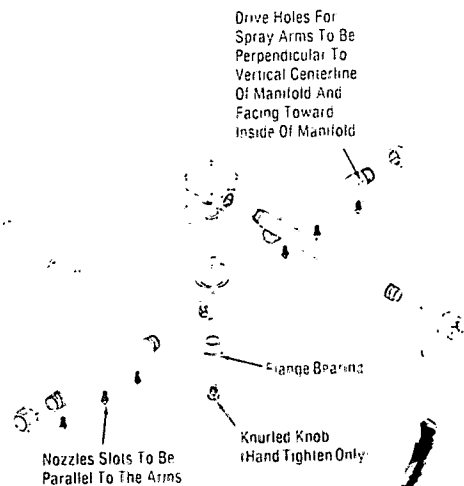

Figure 7-10. UPPER SPRAY ARMS.
2. Screw the spray arms into the manifold, making sure the drive holes in the arms are perpendicular to the vertical centerline of the manifold and are facing towards the inside of the manifold. See Figure 7-10.